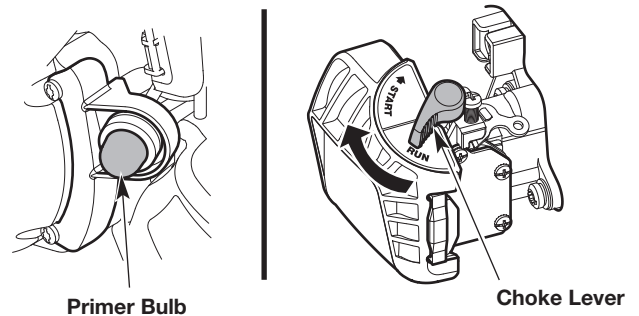

Fig. 12
1. Slowly press and release the primer bulb **10 times** (Fig. 12).
3. Flip the choke lever clockwise until it clicks into the **START** position (Fig. 12).